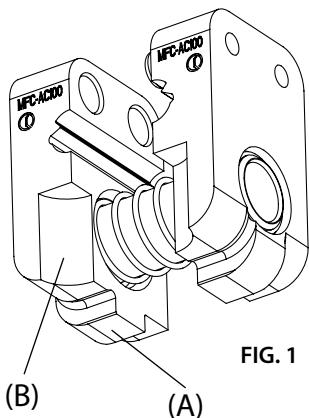

FIG. 1
- By releasing the Locking Handle (17) the dies open and release the wire/conductor.
2.5) Inserting the die set (Ref. to Figs. 1 e 2)
- Remove the locking pin (02) and insert the die set into the top of the head and position the "locator" (A) in the guide at the bottom of the head.